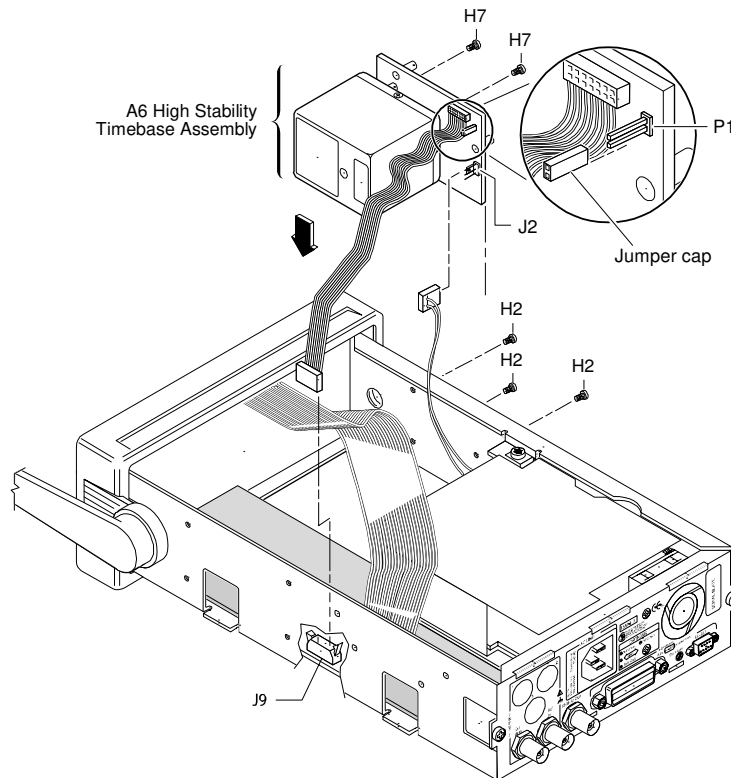

Figure 4-2. High Stability Timebase Retrofitting (Option 001, 010, 012)
- 4 Plug the oven oscillator into the socket on A6 Timebase Support Board, and secure the oven oscillator to A6 using the two Pozidriv screws (H7) as shown in Figure 4-2.**
- 5 If you are retrofitting the Option 001 Medium Stability Timebase, remove the jumper cap on P1 of A6 Timebase Support Board as shown in Figure 4-2.**
- 6 Mount A6 High Stability Timebase Assembly on the left side using three TORX 10 screws (H1) as shown in Figure 4-2.**
- 7 Plug the power supply assembly’s two-wire cable into the three-prong connector (J2) on the high stability timebase assembly as shown in Figure 4-2 (if the two-wire cable exists).**
- 8 Connect A6 High Stability Timebase Assembly cable to connector J9 on A1 Motherboard Assembly as shown in Figure 4-2.**